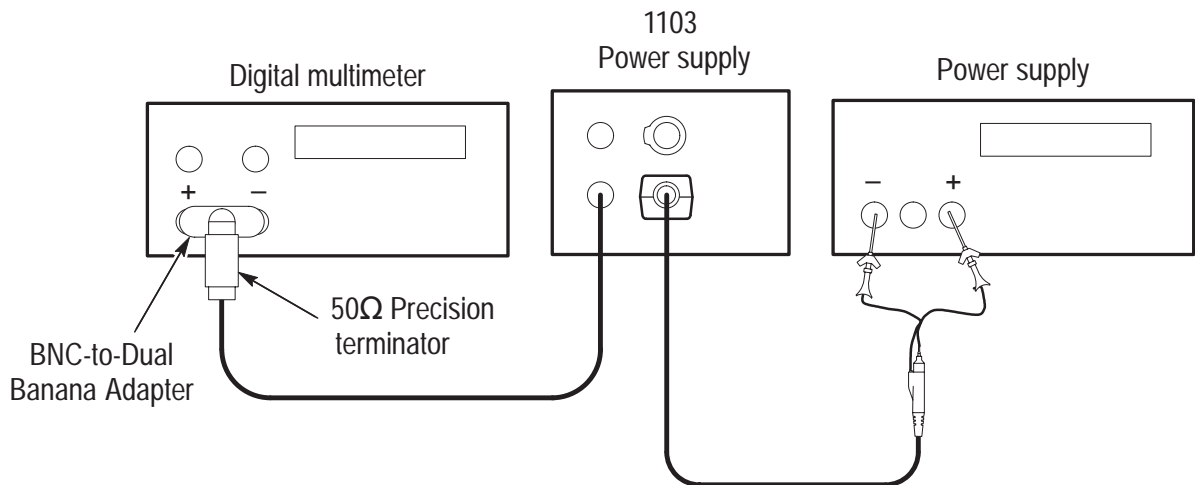

Figure 12: Setup for output zero and DC attenuation accuracy
1. Connect the test equipment as shown in Figure 12.
1. Connect the test equipment as shown in Figure 12 on page 41.